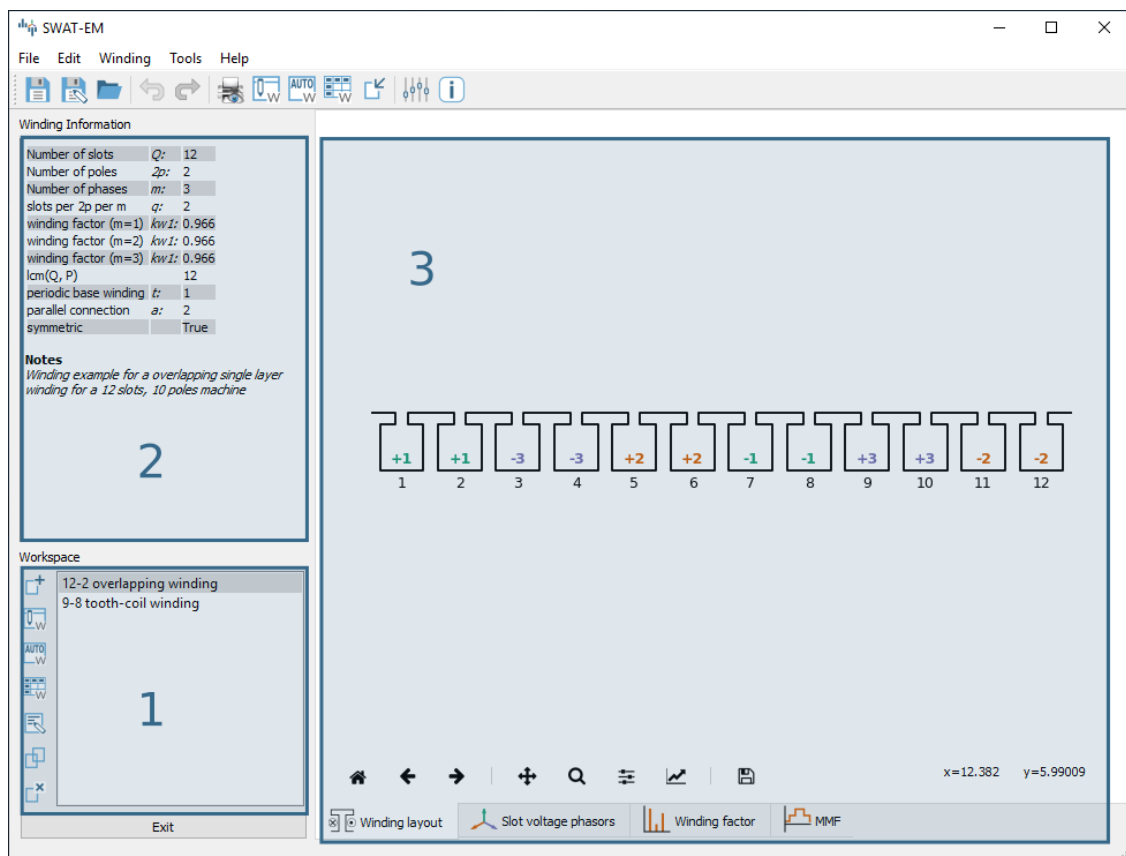

Figure 3.1: Main-window
and plots) gets updated. The buttons on the left of (1) in figure 3.1 modifies the windings in the workspace
The text field (2) in figure 3.1 shows a summary of actual winding.
Many analyzing function results in plots which are shown on (3) in figure 3.1. Every plot has a toolbar on the bottom for zooming, panning and saving the figure to file.